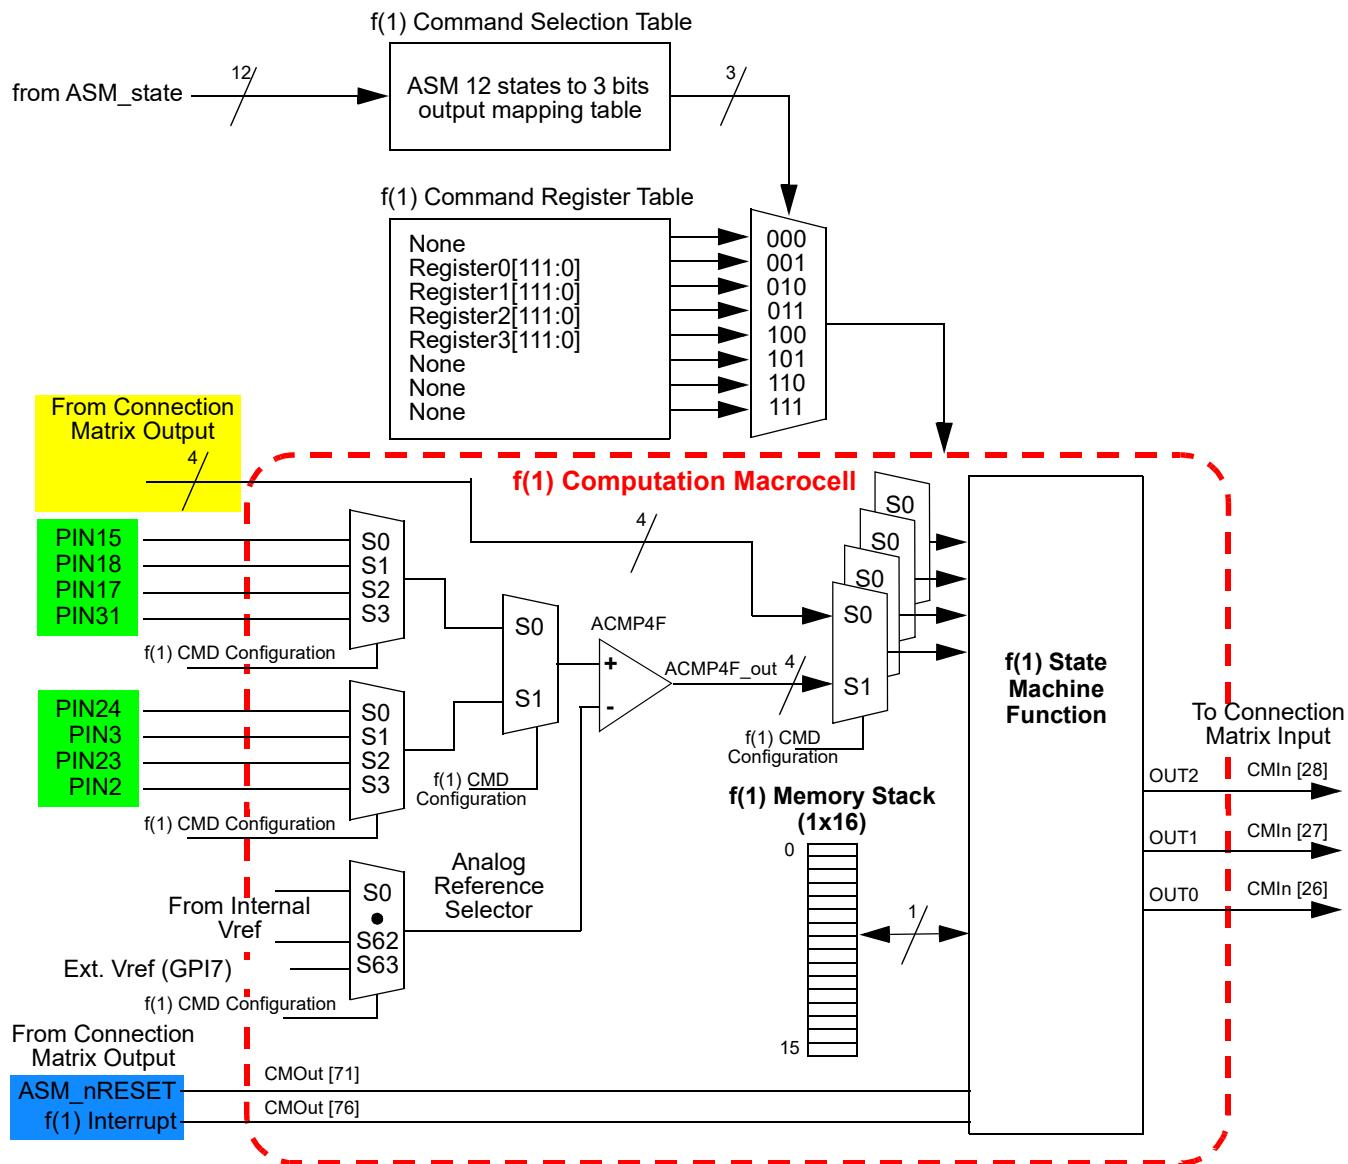

Figure 106: f(1) Computation Macrocell Input Signals
17.3 F(1) COMPUTATION MACROCELL INPUT SIGNALS
The f(1) Computation Macrocell has 6 digital input signals, ASM_nReset, f1_Interrupt, and four inputs from Connection Matrix outputs. An active signal on either of the first 2 inputs will immediately halt any command execution for the f(1) Computation Macrocell, and will immediately relinquish control back to the ASM macrocell. The ASM_nReset is a level sensitive signal, and active low. The f1_Interrupt is a level sensitive signal, and active high. These signals are shown in Figure 106, highlighted in blue. Also there are 4 digital inputs from the Connection Matrix, which can be routed to any Connection Matrix outputs from the f(1) Commands. These signals are shown on Figure 106 highlighted in yellow.